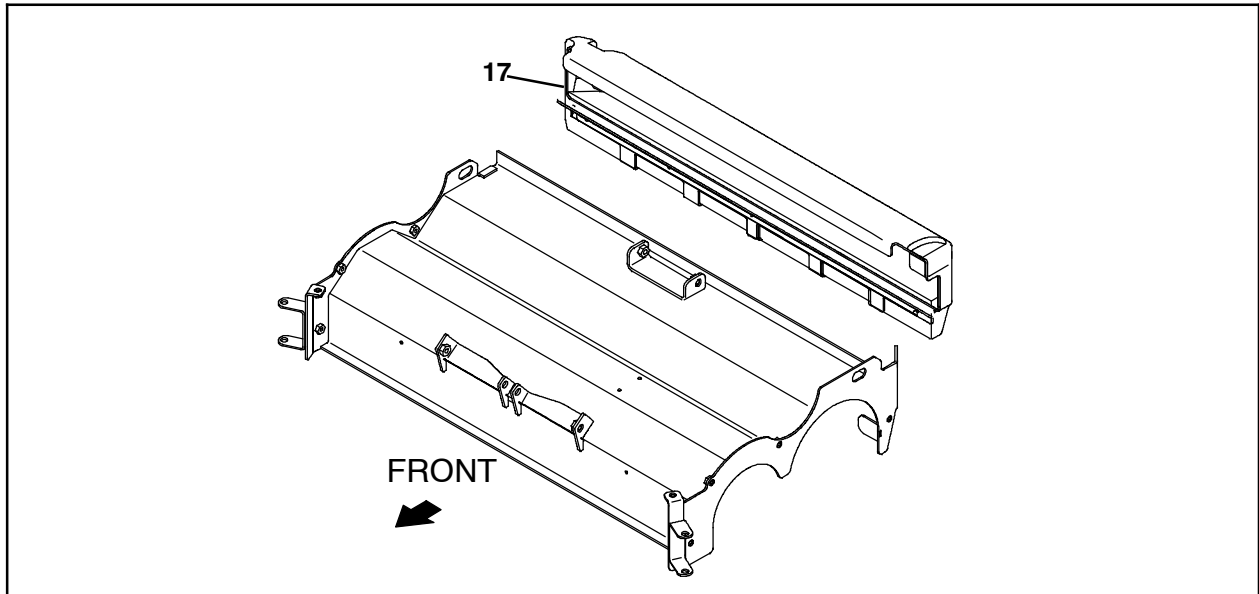

FIG. 5
28. Install the debris tray (17) onto the scrub head. (Fig. 5)